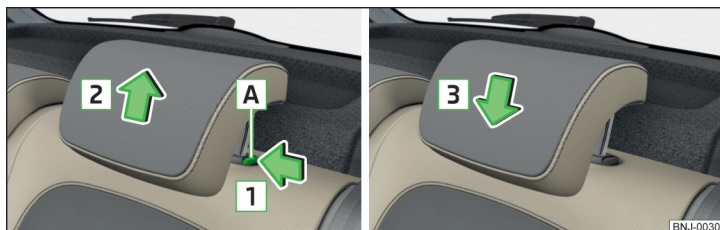

Fig. 56 Headrests: removing/installing
- Press the locking button **A** in the direction of arrow **1**, and pull out the headrest in the direction of arrow **2** » Fig. 56.